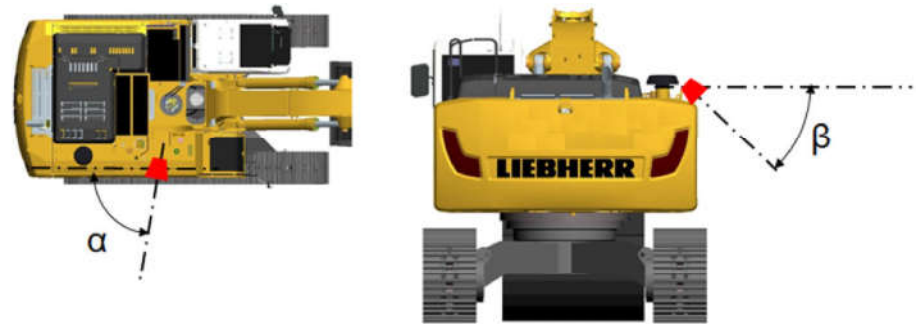

Fig. 294: Adjusting side area camera
- ▶ Align camera so that angle β is 33° . (see: fig. 294, page 129)